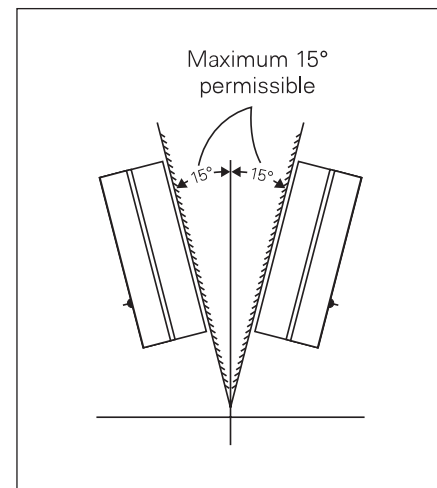
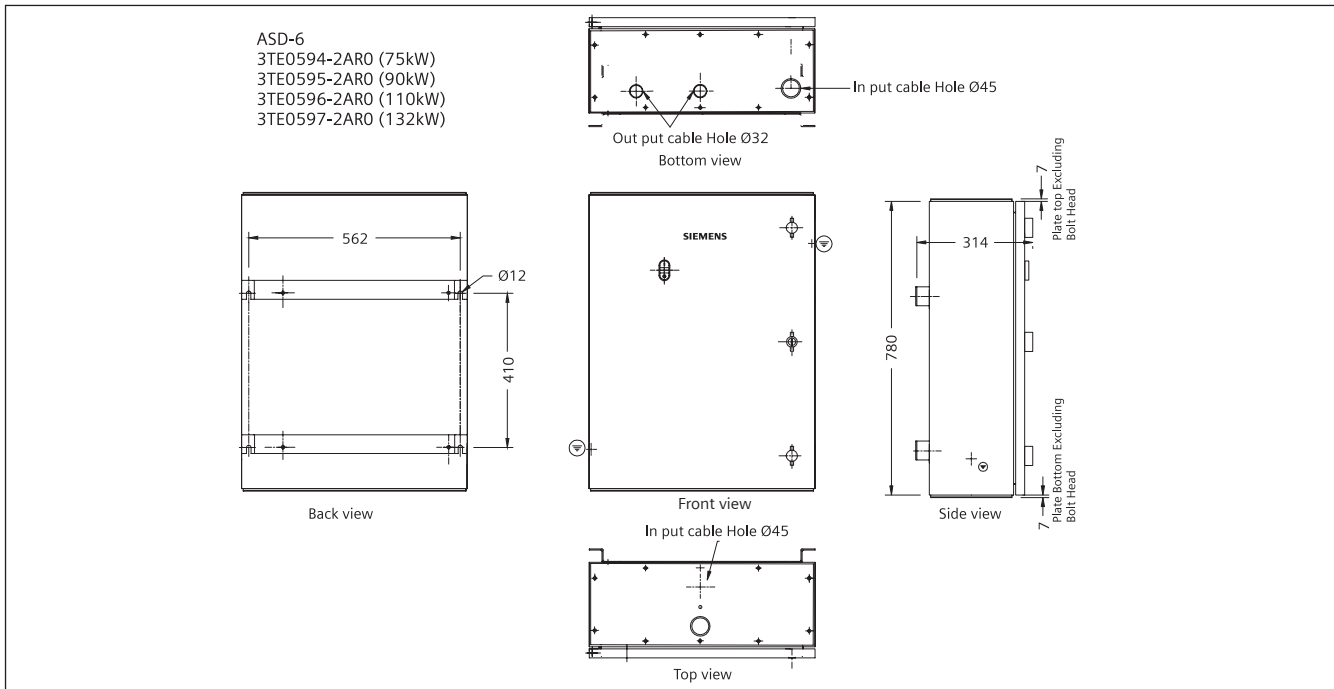

Figure 4: Maximum permissible angle from vertical plane
Figure 8: External and Mounting Dimensions
- Refer figure 8 for the mounting dimensions and figure 4 for permissible mounted angle.